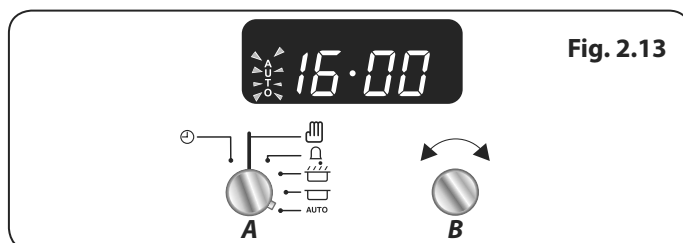

Fig. 2.13
6. When the program starts the oven, the cooking symbol will appear on the display. Once the specified time has elapsed it will emit an alarm and the Multifunction Oven will stop working. The 'Cooking' symbol on the display will disappear and the word 'AUTO' will flash (**Fig. 2.13**).